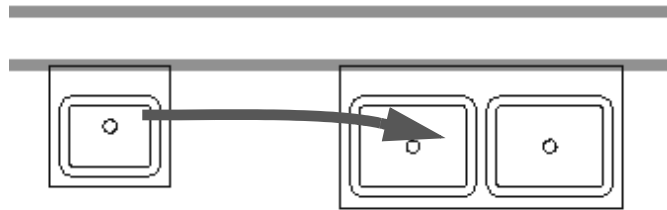

Figure 2–93
5. Where do you change the type for a selected plumbing fixture, as shown in Figure 2–93?